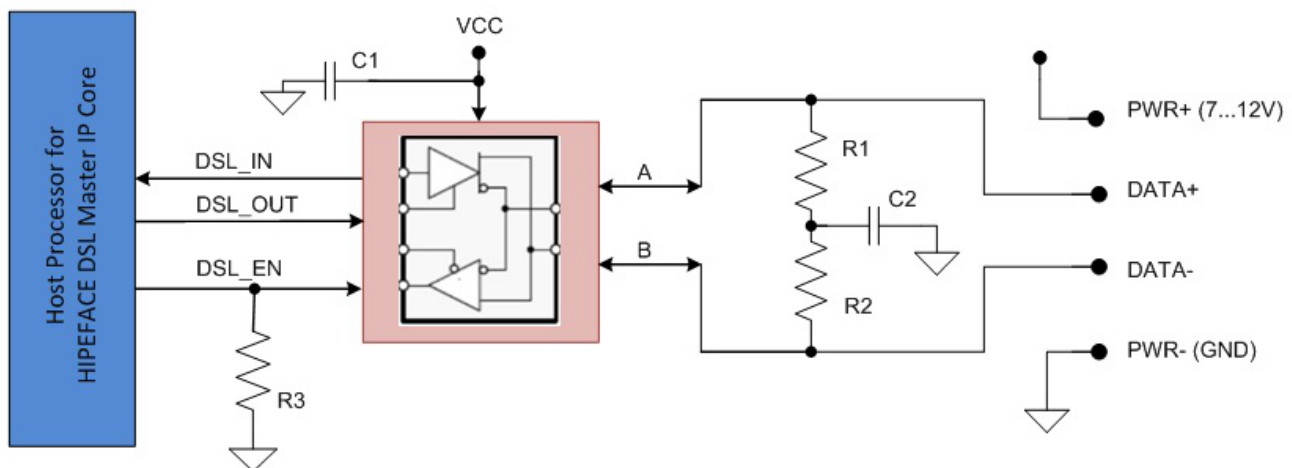

Figure 1. Four-wire Interface Circuit with Separate Encoder Cable
- A **four-wire** interface/separate encoder cable (i.e., power separated from data). See Figure 1.